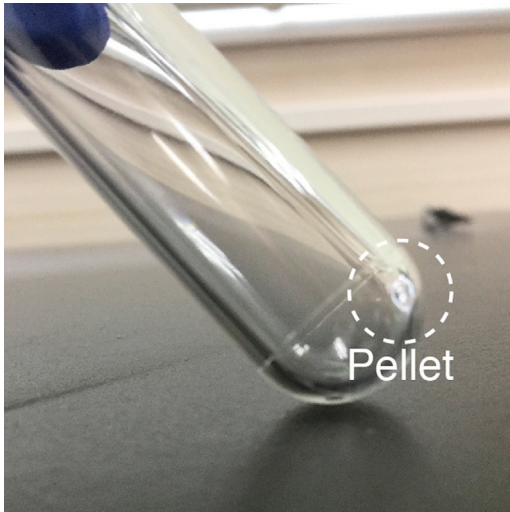

Figure 3. A Representative Image of the Ribosome Pellet Generated by Sucrose Cushion
26. Discard the supernatant by pipetting. See Figure 3 as a representative picture of the ribosome pellet. Resuspend the pellet in 300 μL of TRIzol reagent by pipetting. Leave the resuspension for 10 min to ensure complete dissolution. Transfer the solution into a new 1.5-mL tube.